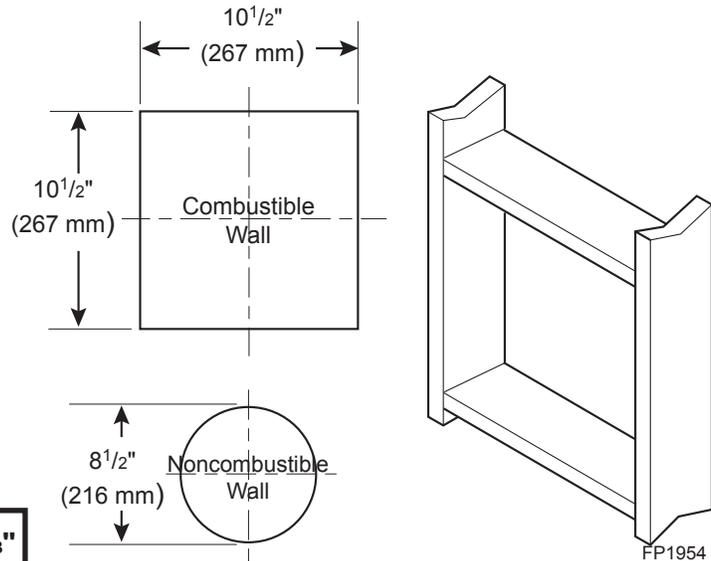

Figure 25 -
Combustible Exterior Walls: Cut a 10½"H x 10½"W square hole through the exterior wall frame. *Figure 25*
2. The center of the hole should line up with the center line of the horizontal rigid vent pipe end. Allow ¼" minimum rise per foot. *Figure 25*